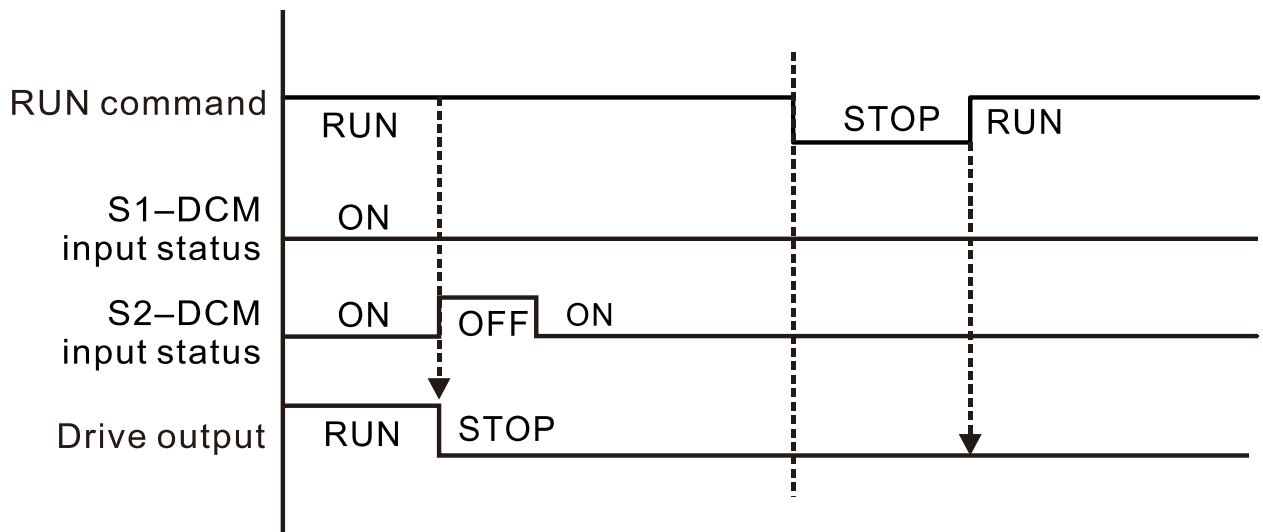

Fig.17-9
As shown in Fig. 17-9, when S1-DCM is ON during operation (STO function is not required) and S2-DCM is OFF (STO function is required), the drive stops outputting and the keypad shows the STL2 error. However, you cannot reset the STL2 error even if the S2 status is restored (ON) regardless of the parameter setting. You must cycle the power to reset and to restore the drive to the normal standby state.